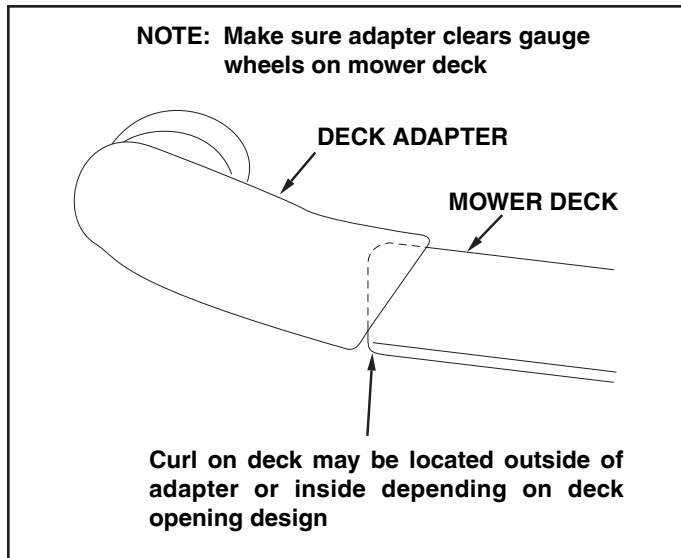

FIGURE 24
- Position the adapter over the deck opening, and check for fit of cutout as shown in figure 24. Trim cutout, if necessary, to allow tilting of adapter, keeping the fit as close as possible for best vacuum suction.